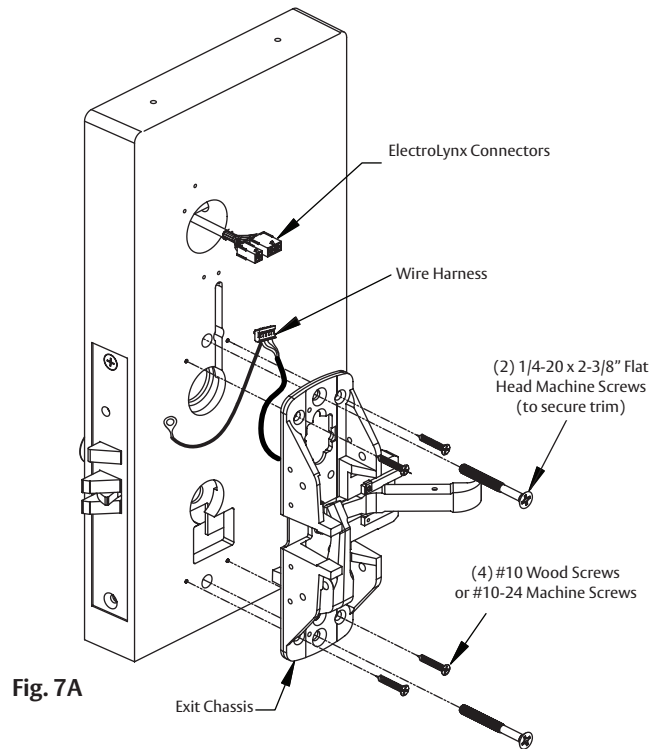

Fig. 7A
1. Route wire harness along track cutout for wood doors and access hole for metal doors (Fig. 7A).